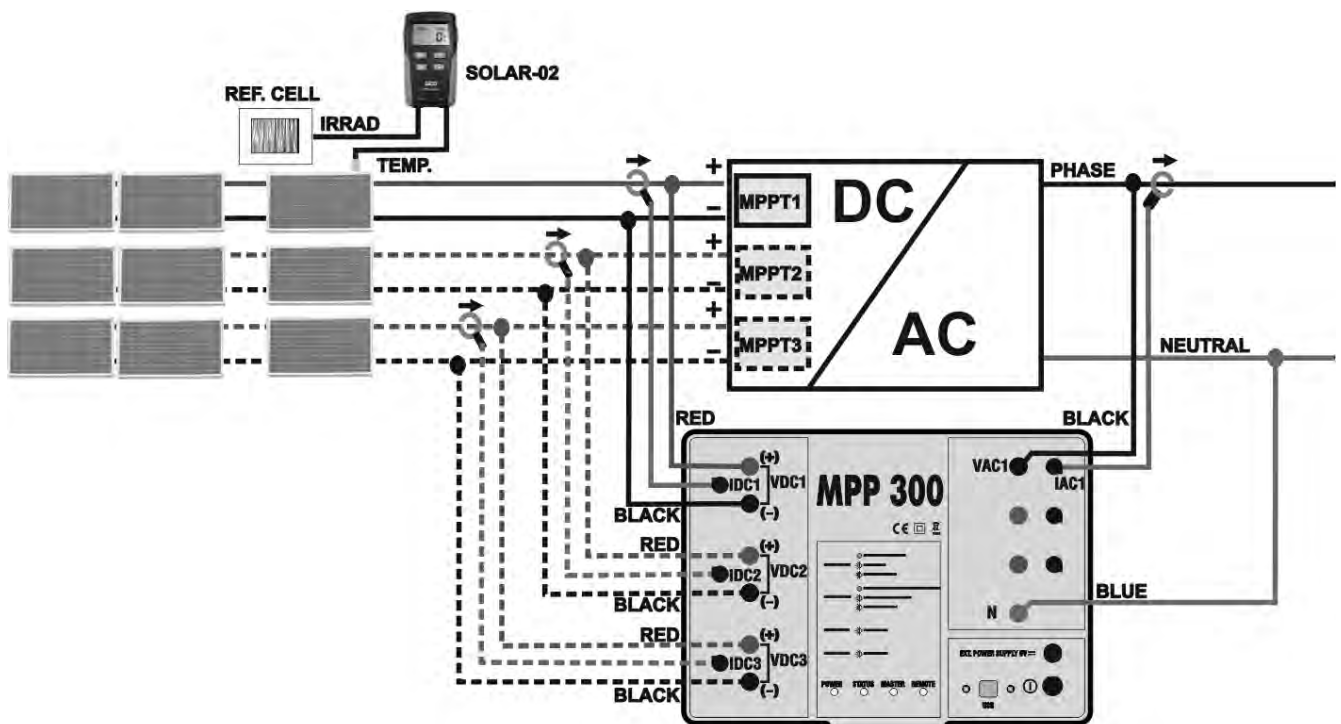

Fig. 2: Connection of MPP300 for testing a single-phase PV system
7. Connect the **VDC1(+)** and **VDC1(-)** inputs of unit **MPP300** to the output terminals of the string, respecting the polarities and the colors indicated in Fig. 2 or Fig. 3.
10. Insert the DC current clamp onto the positive output conductor of the string, respecting the direction of the arrow found on the clamp itself as indicated in in Fig. 2 or Fig. 3. Position the clamp toroid as far as possible from the inverter and from the negative output conductor of the string itself
12. Connect the VAC1 and N inputs of unit MPP300 to the Phase and Neutral conductors respectively, respecting the polarities and the colours indicated in Fig. 2 or Fig. 3. In case of three-phase systems in which no Neutral conductor is available, connect input **N** to earth
14. Connect the AC clamp to the Phase L1 conductor, **respecting the direction of the arrow** found on the clamp itself as indicated in Fig. 2 or Fig. 3. Position the clamp toroid as far as possible from the inverter and from the Neutral conductor. Connect the clamp output to the **IAC1** input of MPP300